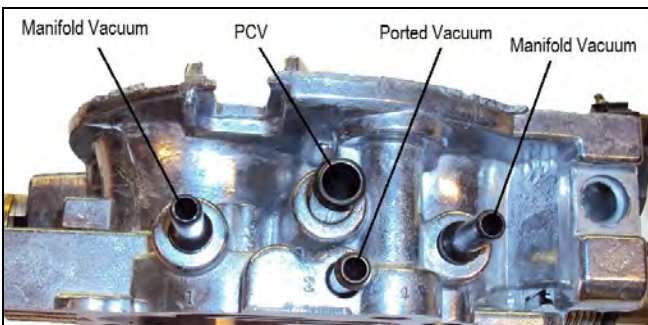
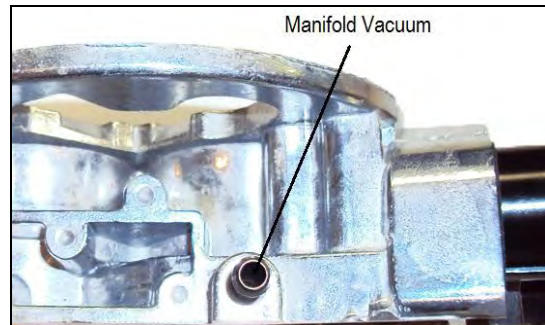

Figure 2
Figure 3
2. Connect all of the vacuum lines that were labeled during the disassembly of the stock fuel system to the throttle body. **Figure 2** shows which ports are for manifold vacuum, ported vacuum, and PCV. The single fitting on the back of the throttle body is for manifold vacuum. There is a port on the other side of the throttle body as well. This is manifold vacuum. **HOWEVER, DO NOT CONNECT THE MAP SENSOR TO THIS PORT (Figure 3).**